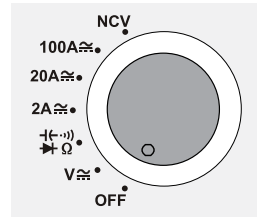

Figure 2
The product is turned off when the rotary switch (3) is in the OFF position (see figure 2). Turn off the product after you have finished using it.